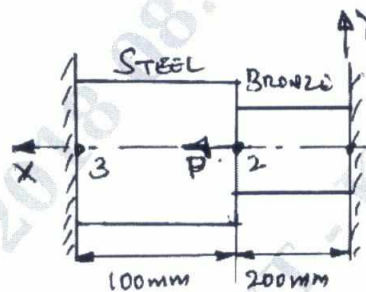

Fig.Q4(a)
- b. A 4 bar truss element as shown in Fig.Q4(b), determine i) Nodal displacement ii) stress in each element, area of truss element = 100mm^2 ; $E = 2 \times 10^5 \text{N/mm}^2$.